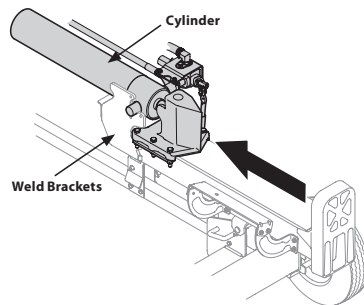

Figure 7
16. Lift and slide the cylinder up to the top of beam and into the weld brackets. See Figure 7.